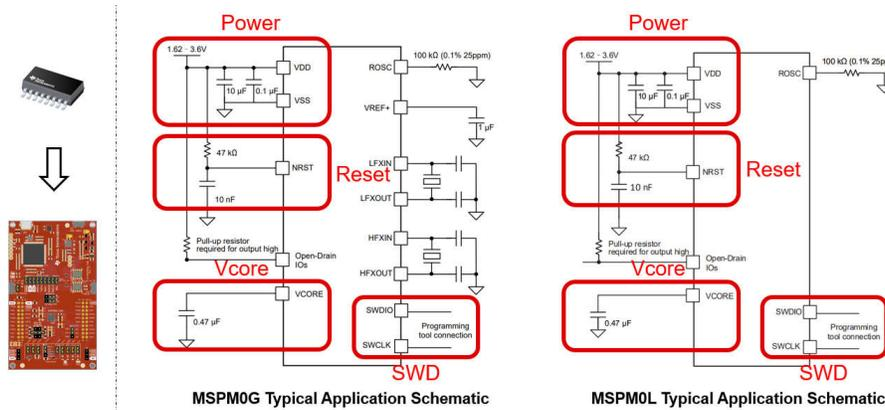

Figure 2-37. MSPM0 Minimum System
3. As for MSPM0 hardware design into your own board. Figure 2-37 shows a sample minimal system design.